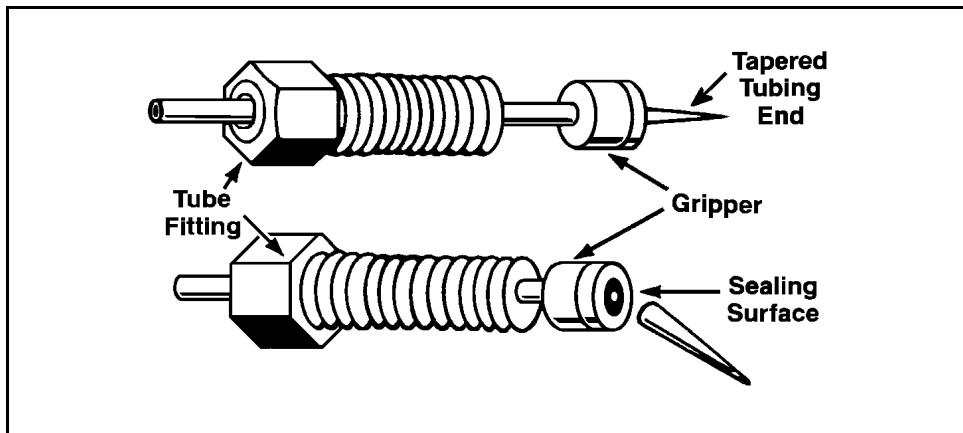

Figure 5-1. *Installing a Tube Fitting*
4. Slide a new gripper (P/N 030509), stainless steel side first, over the tapered end of the tubing. Grasp the emerging end of the tubing with pliers and pull the fitting and gripper onto the full diameter of the tubing (Figure 5-1).